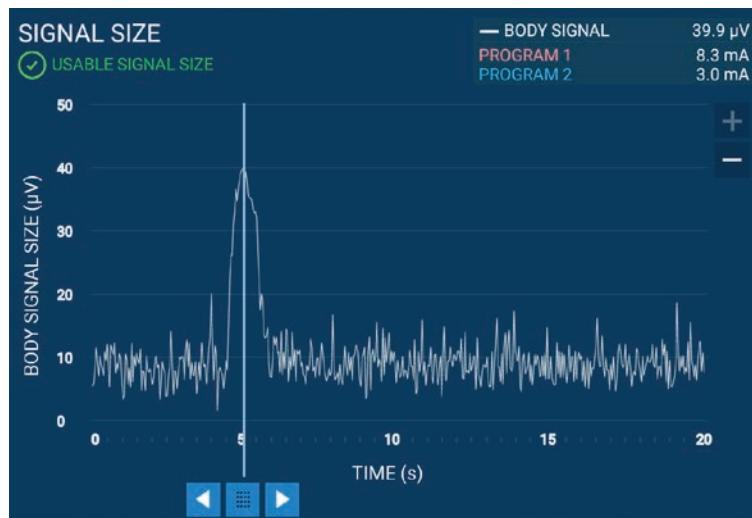

Figure 2. Example of SIGNAL SIZE graph.
Figure 2 shows an example plot of body signal size measurements recorded over time. The graph is used to identify if a body signal of sufficient size is recorded when a patient performs a movement or activity that may cause a momentary intense sensation (such as a back arch or cough). If there is a signal of usable size, the system selects the largest body signal by default and marks the signal on the graph. The system automatically calculates the initial values for the Reaction and Recovery thresholds from the signal information.
5. Review the data in the **SIGNAL SIZE** graph (see Figure 2 on page 38). Make sure that data was captured when the patient was at rest as well as when the patient was performing a movement or activity.